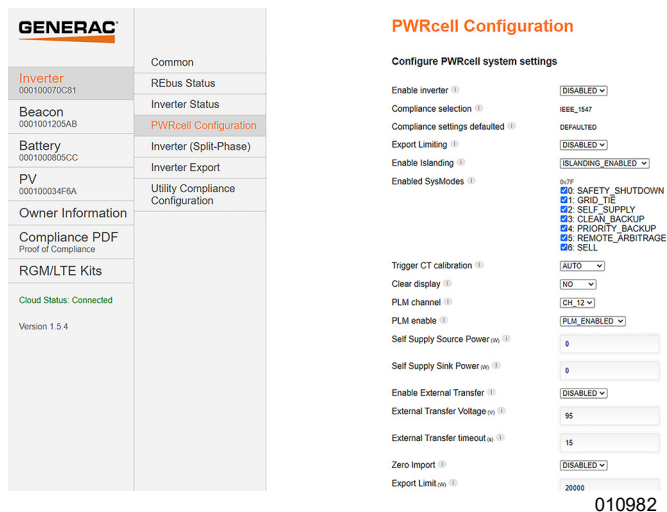

Figure 6-28. PWRcell Configuration
3. See Figure 6-28. To adjust a setting, click on it, select the desired change, and click Submit. Any changes selected to be made, will not be implemented unless Submit is selected at the end.